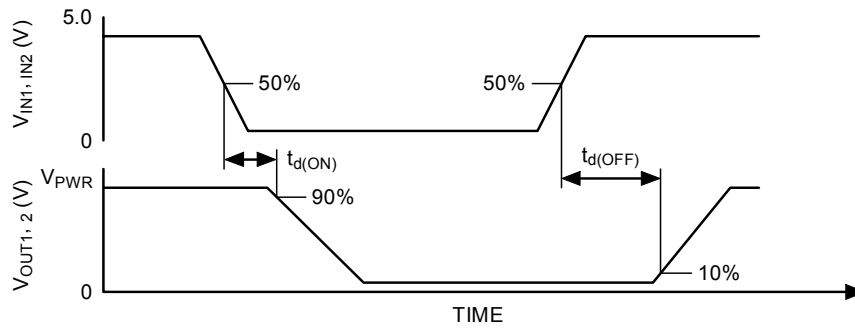

Figure 2. Output Delay Time
25. Output Delay is the time duration from the midpoint of the IN1 or IN2 input signal to the 10% or 90% point (dependent on the transition direction) of the OUT1 or OUT2 signal. If the output is transitioning HIGH-to-LOW, the delay is from the midpoint of the input signal to the 90% point of the output response signal. If the output is transitioning LOW-to-HIGH, the delay is from the midpoint of the input signal to the 10% point of the output response signal. See Figure 2, page 11.